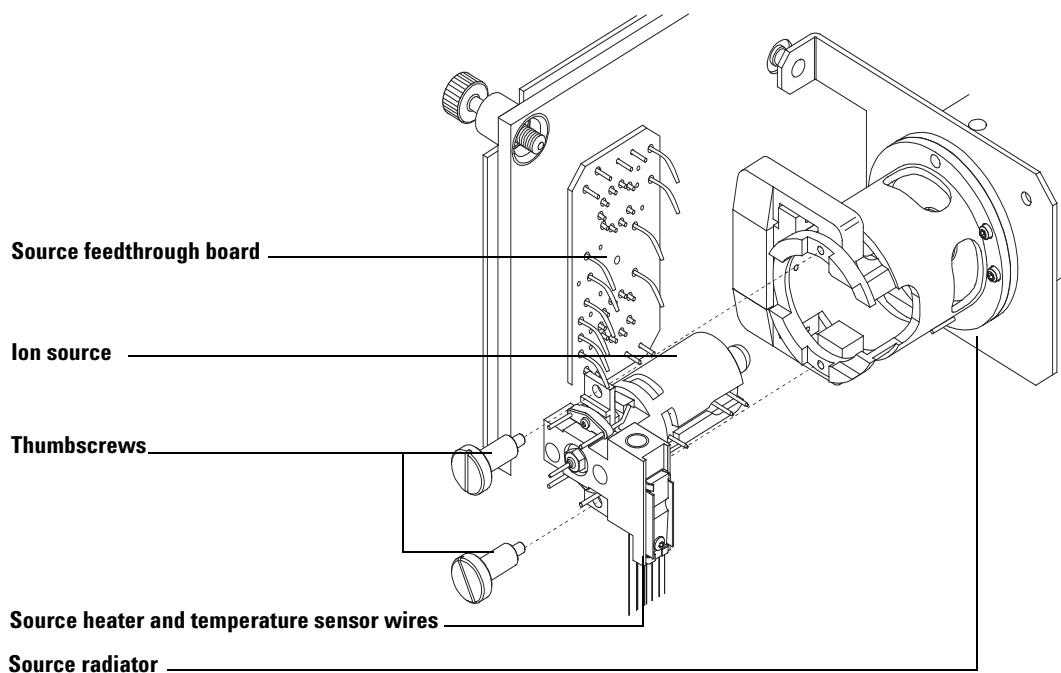

Figure 22 Removing the EI ion source
- 3 Disconnect the wires from the ion source. Do not bend the wires any more than necessary (Figure 22 and Table 16).
- 4 Trace the wires for the ion source heater and temperature sensor to the feedthrough board. Disconnect them there (Figure 22).